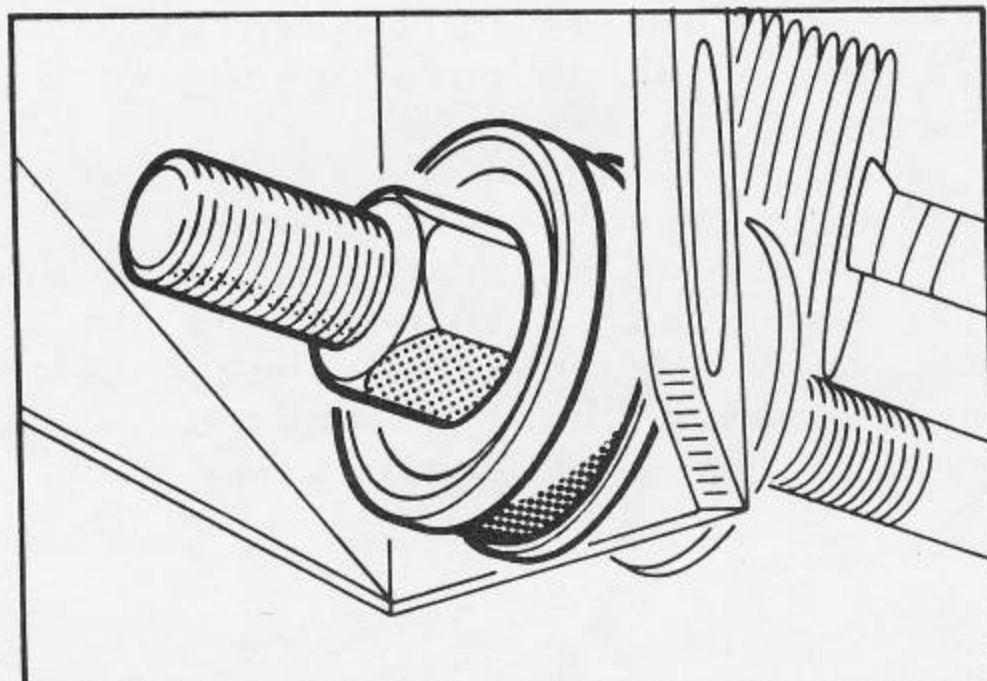

Fig.6 Front link nut.
1. Slacken the front nulock nut fitted to the leading link and the outer nut on the rear of the leading link. Fig.6